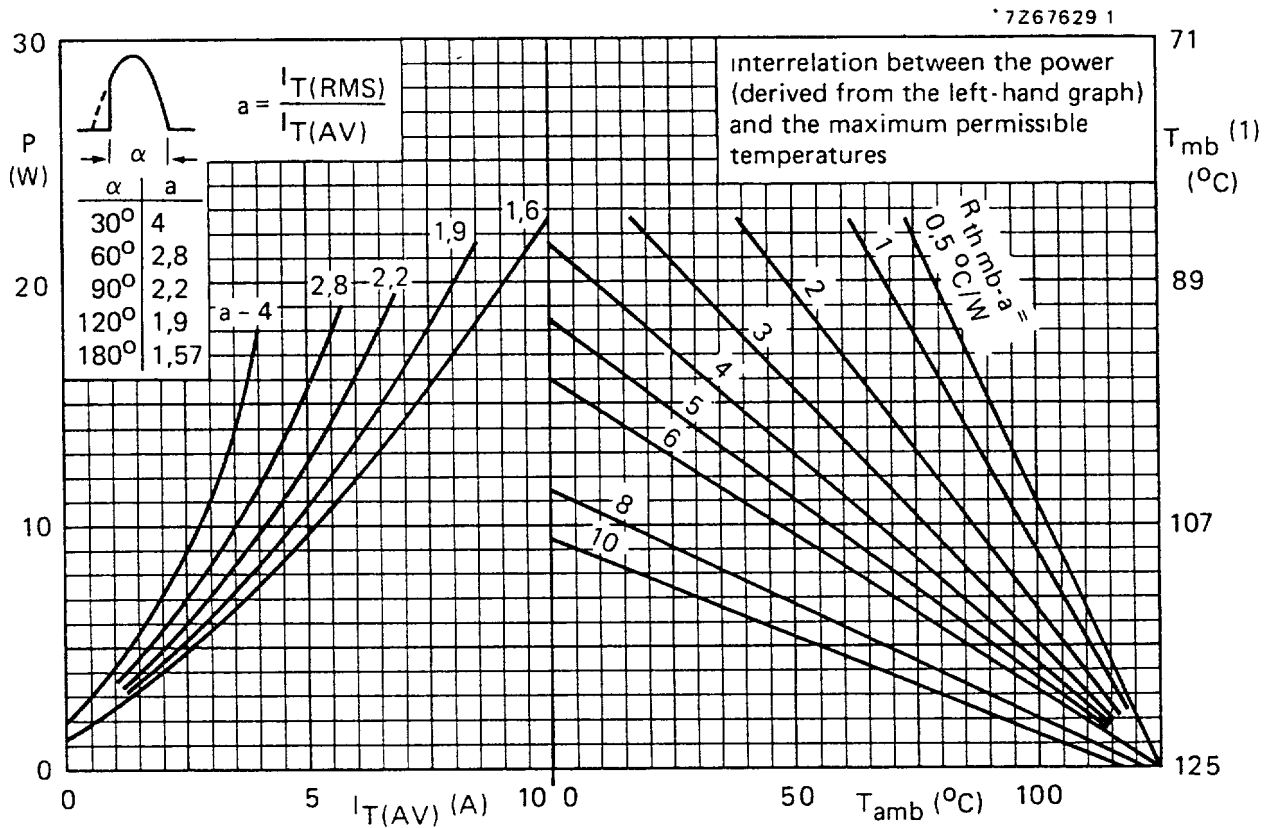

Fig. 3 (1) T_{mb} -scale is for comparison purposes only and is correct only for $R_{th\ mb-a} \leq 6\ ^\circ C/W$.
* To ensure thermal stability: $R_{th j-a} < 4$ °C/W (d.c. blocking) or < 8 °C/W (a.c.). For smaller heat-sinks T_{jmax} should be derated. For a.c. see Fig. 3.